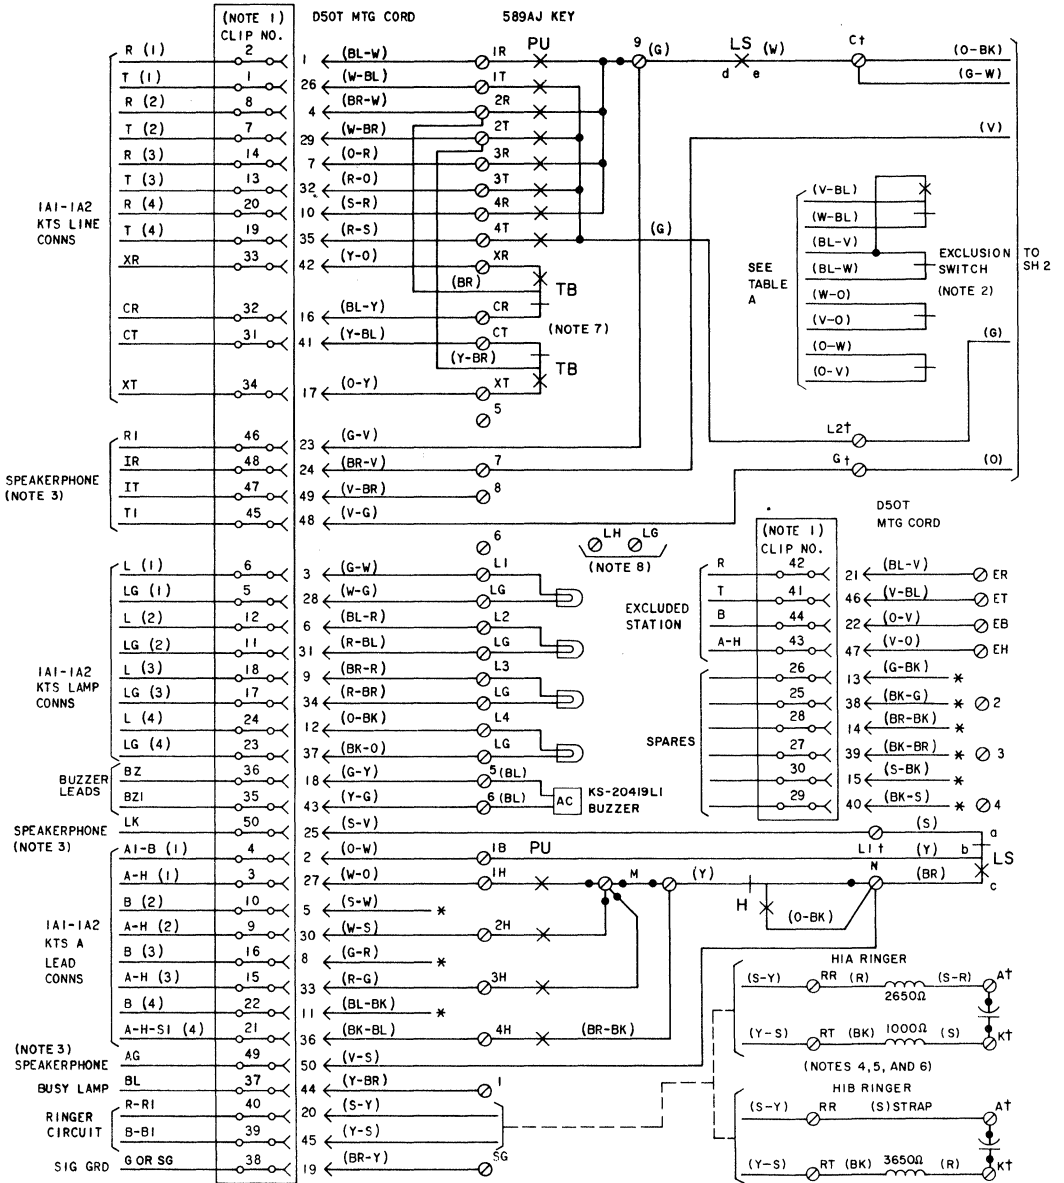

Fig. 1—2565LK (MD) or 2565LKM [(MD) Manufactured Prior to July 20, 1979] Telephone Set, Connections (Sheet 1 of 2)
1.01 This section contains information for the 2565LK (MD), 2565LKM (MD), and 2565LKMS telephone sets (Fig. 1 and 2).